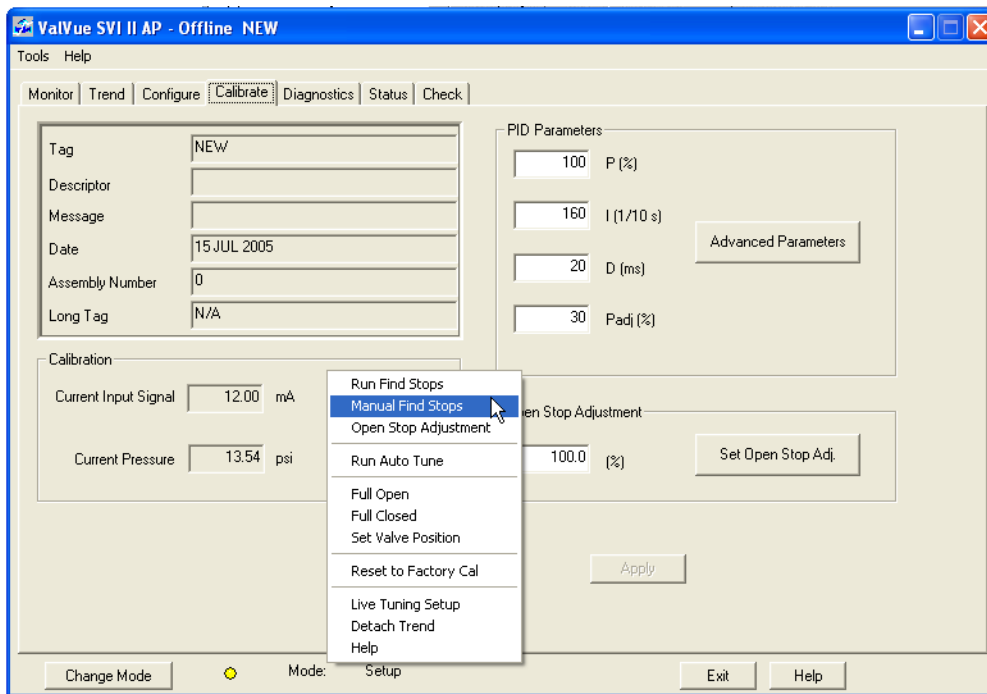

Figure 39 Selecting Manual Find Stops
1. Right-click and select **Manual Find Stops** (Figure 39).